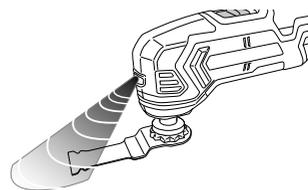

Fig. 15
10. LED light warning signals (Fig. 15)